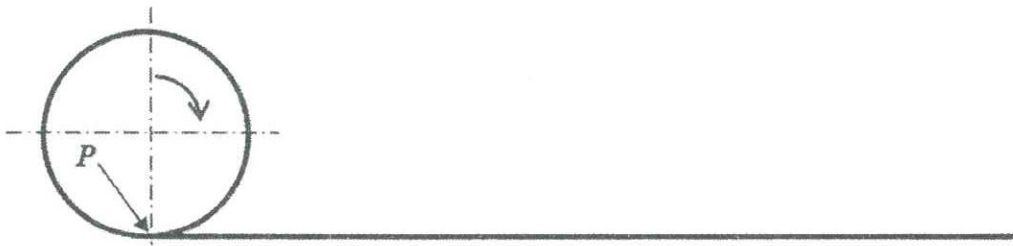

Figure Q4
- Q4. a) A 50 mm diameter disc rolls along a straight line, without slipping as shown in Figure Q4. Draw the locus of point *P* for half a revolution, if the point initially touched the straight line.